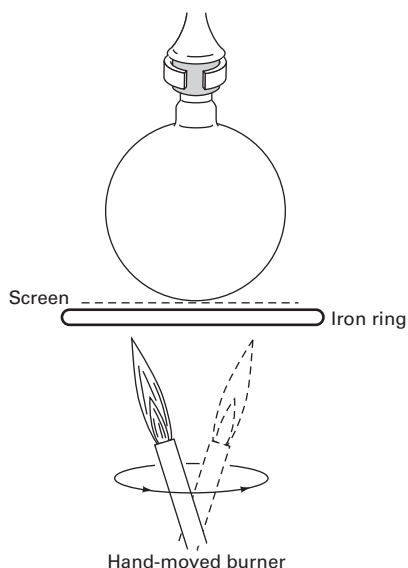

FIGURE 17.3 Don't raise the flask, lower the burner.
2. When you set up for distillation or reflux, don't waste a lot of time *raising* and *lowering* the entire setup so that the burner will fit. This is nonsense. Move the burner! Tilt it (Fig. 17.3). If you leave the burner motionless under the flask, you may scorch the compound, and your precious product can become a "dark intractable material."